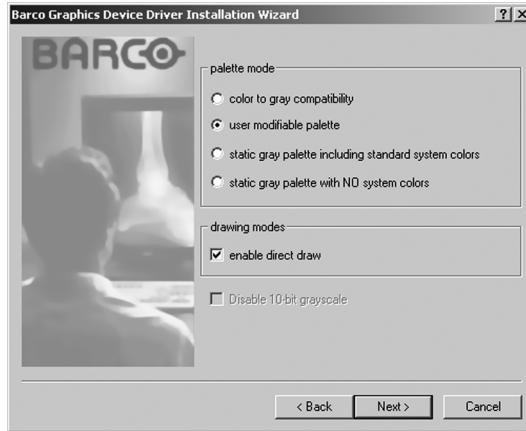

Figure 29
10. When the screen shown in figure 29 below appears select the palette mode which is the correct one for your viewing application. If you are uncertain use the default settings. You can change the palette mode later (See **"Palette Mode"** on page 66 of the BarcoMed Driver Tab section). If you want to enable DirectDraw check the **checkbox** next to "Enable Direct Draw".